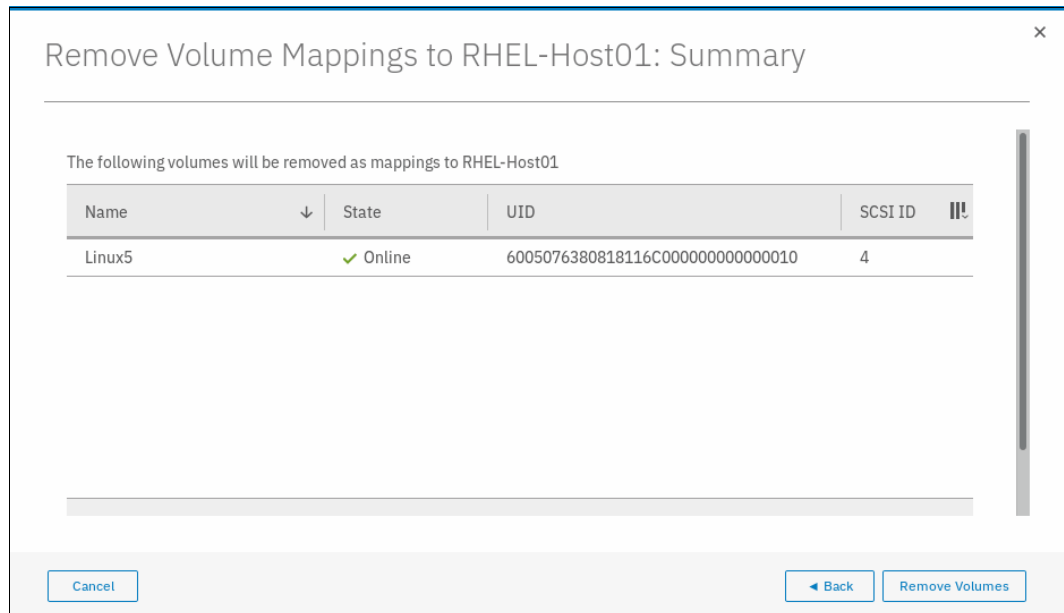

Figure 8-13 Remove volume mapping summary window
- A window opens in which the volume that is going to be unmapped is listed, as shown in Figure 8-13.